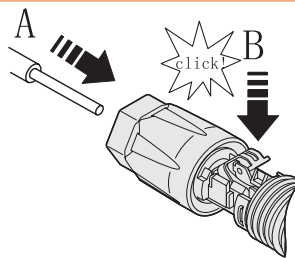

Figure 4-24
④ Insert the stripped DC cable to the battery connector deep enough and toggle the clamping bracket to make sure it tightly locked with the stripped cable, as shown in Figure 4-24: